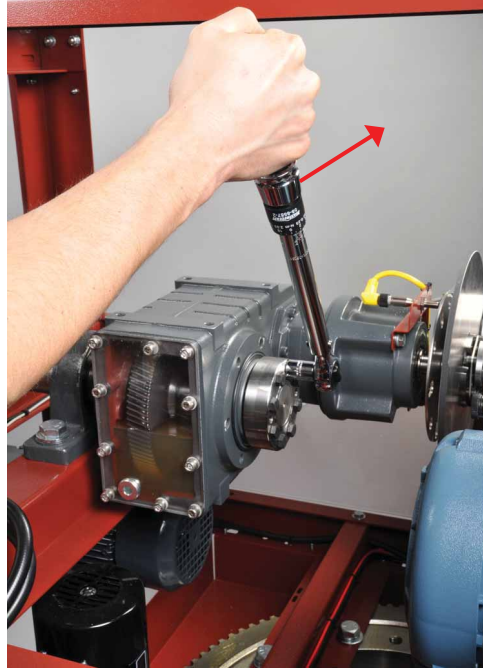

Figure 2-38. Verifying the torque of a bolt.
40. Verify that each bolt is adjusted to at least 28.2 N·m (250 lbs·in) (Figure 2-38). Start with the top bolt and proceed clockwise. Go slowly so